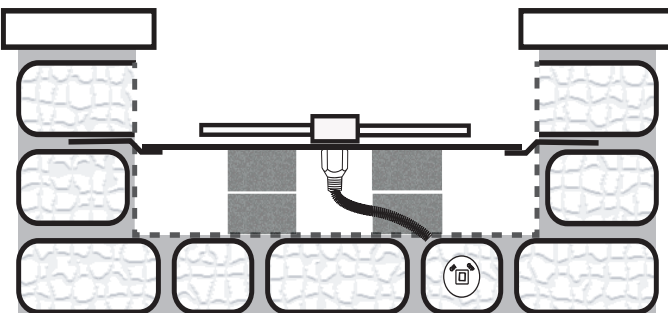

Fig. 6 Show blocks supporting center of disc.
**NOTE:** Additional methods of supporting the center of the disc underneath or supporting an oversized opening are shown on page 9 in Figs. 6 & 7.